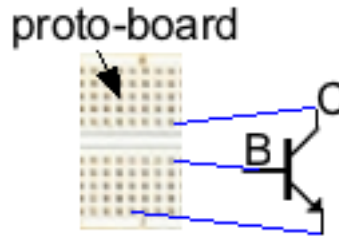

Fig. 2 Transistor connection for part 7.3
7.3 Shielding. Repeat the experimental runs above with the base and collector wires separated as shown in Fig. 2 below.